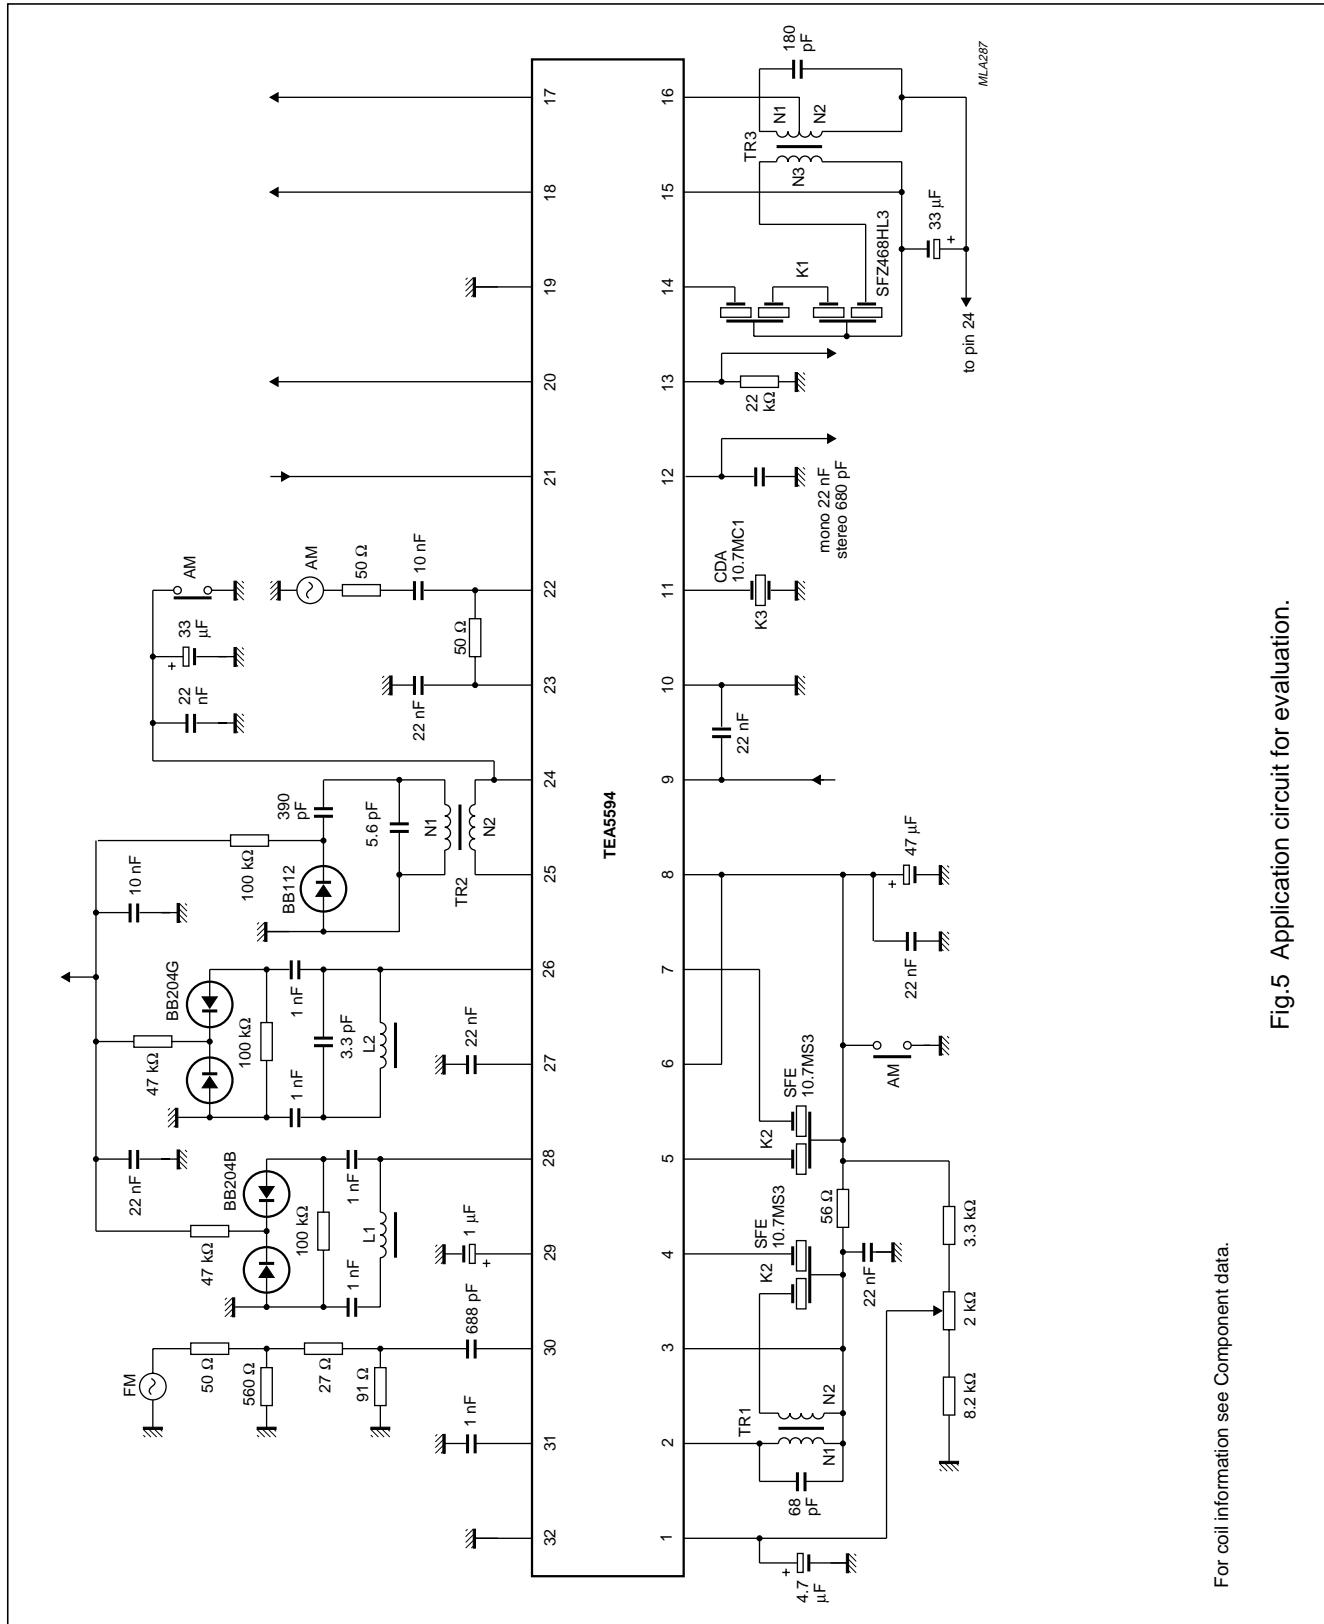

Fig.5 Application circuit for evaluation.
4. Front-end connected to IF plus detector part (see Fig.5). Input frequency = 1 MHz; m = 80% modulated with $f_{mod} = 1 \text{ kHz}$.